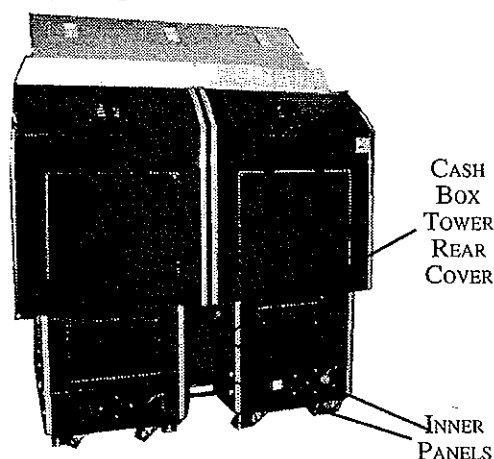

FIGURE 2: REAR VIEW, ASSEMBLED COOL RIDERS CABINET
4. Lift the Cash Box Tower out and set near its approximate installation location between the left- and right-side cabinets (see Figure 2).
2. Untape the wire harnesses from the outside of the inner panels of the Left- and Right-side Cabinets and the outside of the Cash Box Tower (see Figure 2).